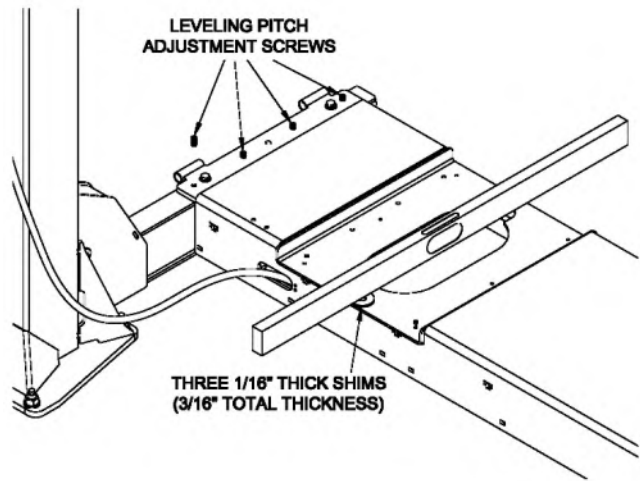

Fig 30 – Runway Pitch Adjustment
- 61) Place the level in a front turn plate cutout, **Fig 30**. Place three 1/16" thick column shims (3/16" total thickness) under the level at the outside edge of the cutout and adjust the runway pitch leveling screws until the bubble is centered between the lines. Make sure all leveling screws are touching the crossbeam. Torque runway bolts to 60-80 foot pounds and recheck the level. Repeat for other side. (The rear of the runway usually does not require pitch adjustment as this is a closed rear crossbeam.)